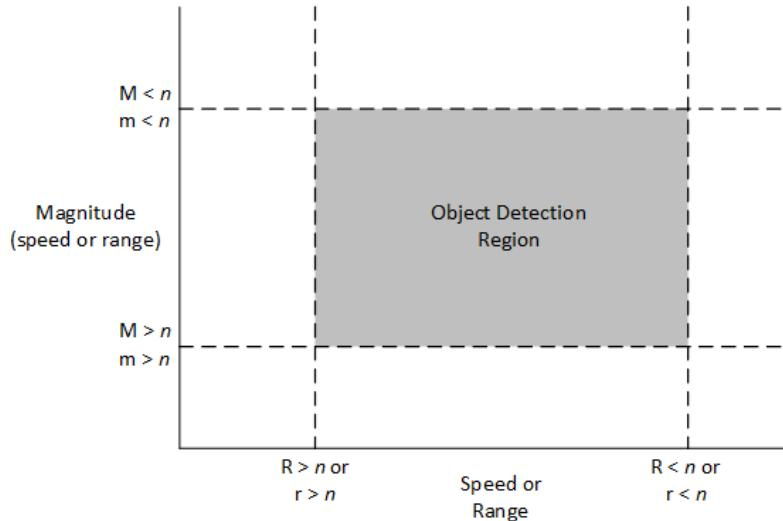

Figure 7. Speed, Range and Magnitude Filtering
**Simple Object Detection Interrupt** – a simple output which trips if an object in motion or object in range is detected. The signal is toggled on the interrupt pin. For the Doppler (-A, -C) radar sensors, the pin is high when no motion is present and low when motion is detected. For the FMCW (-B, -C) radar sensors, the pin is high when no object is in detected region and set low when an object is detected in the detection region. For Doppler (-A, -C) radar sensors the interrupt can be filtered on speed ( $R > n$ ,  $R < n$ ), signal magnitude ( $M > n$ ,  $M < n$ ), and direction ( $R +$ ,  $R -$ ,  $R \mid$ ). For FMCW (-B, -C) radar sensors, the interrupt can be filtered on range ( $r > n$ ,  $r < n$ ) and signal magnitude ( $m > n$ ,  $m < n$ ). Figure 7 shows how filtering can allow detection for certain objects and mask out others.